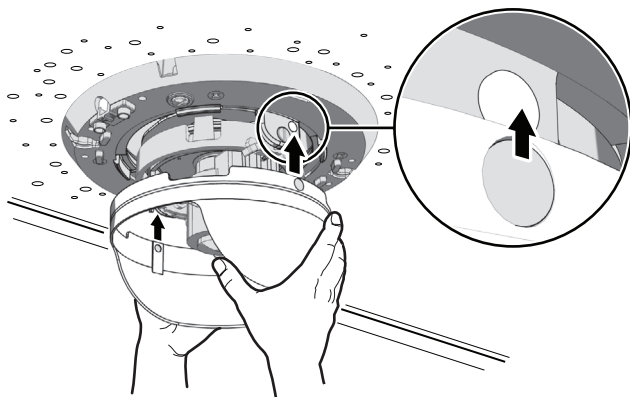

Figure 9. Installing the Dome Liner
1. Align the magnets on the dome liner with the magnets located on the back box (refer to Figure 9).